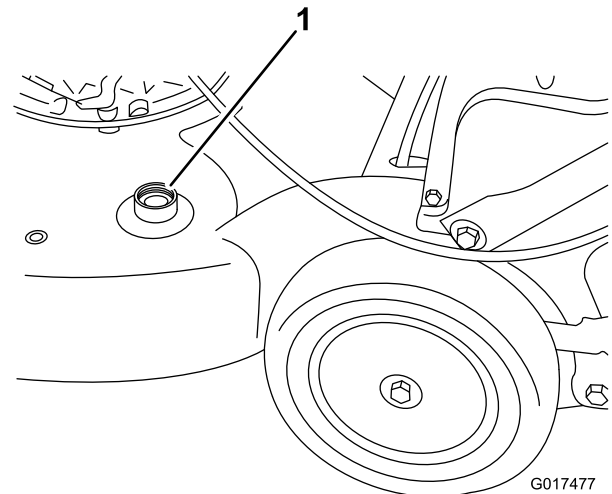

Figure 41
3. Attach a garden hose that is connected to a water supply to the washout port on the mower housing (Figure 41).